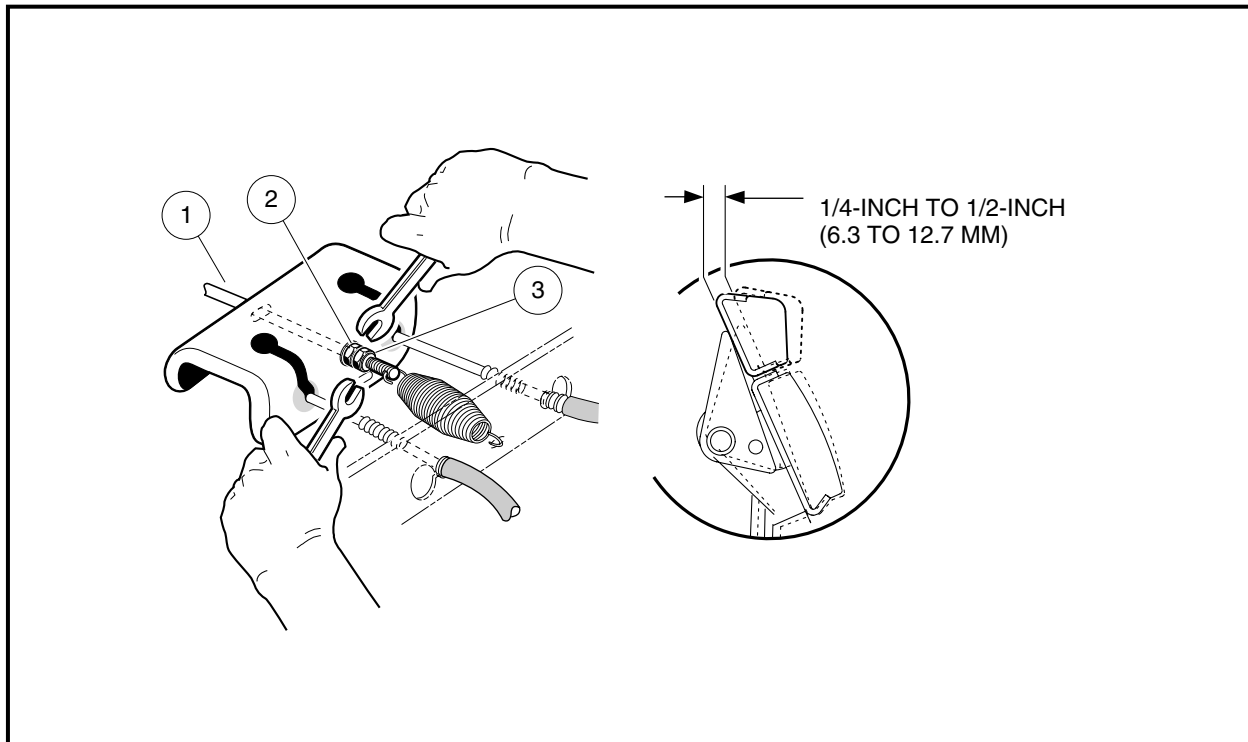

Figure 6-18 Brake Pedal Free Play Adjustment
- 3.1. Measuring perpendicular from the floorboard to the back of the brake pedal, depress the brake pedal and measure the distance that the pedal moves before all of the slack is taken out of the brake cables (**Figure 6-18, Page 6-10**).